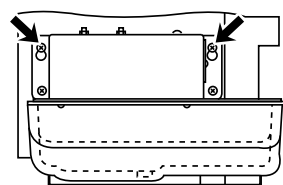

Fig. 7
- Install the screws to the 2 upper holes (indicated by the arrows shown in Fig. 7) of the mounting plate by hand tightening them about halfway, and then hook the Drain Pump on the screws.